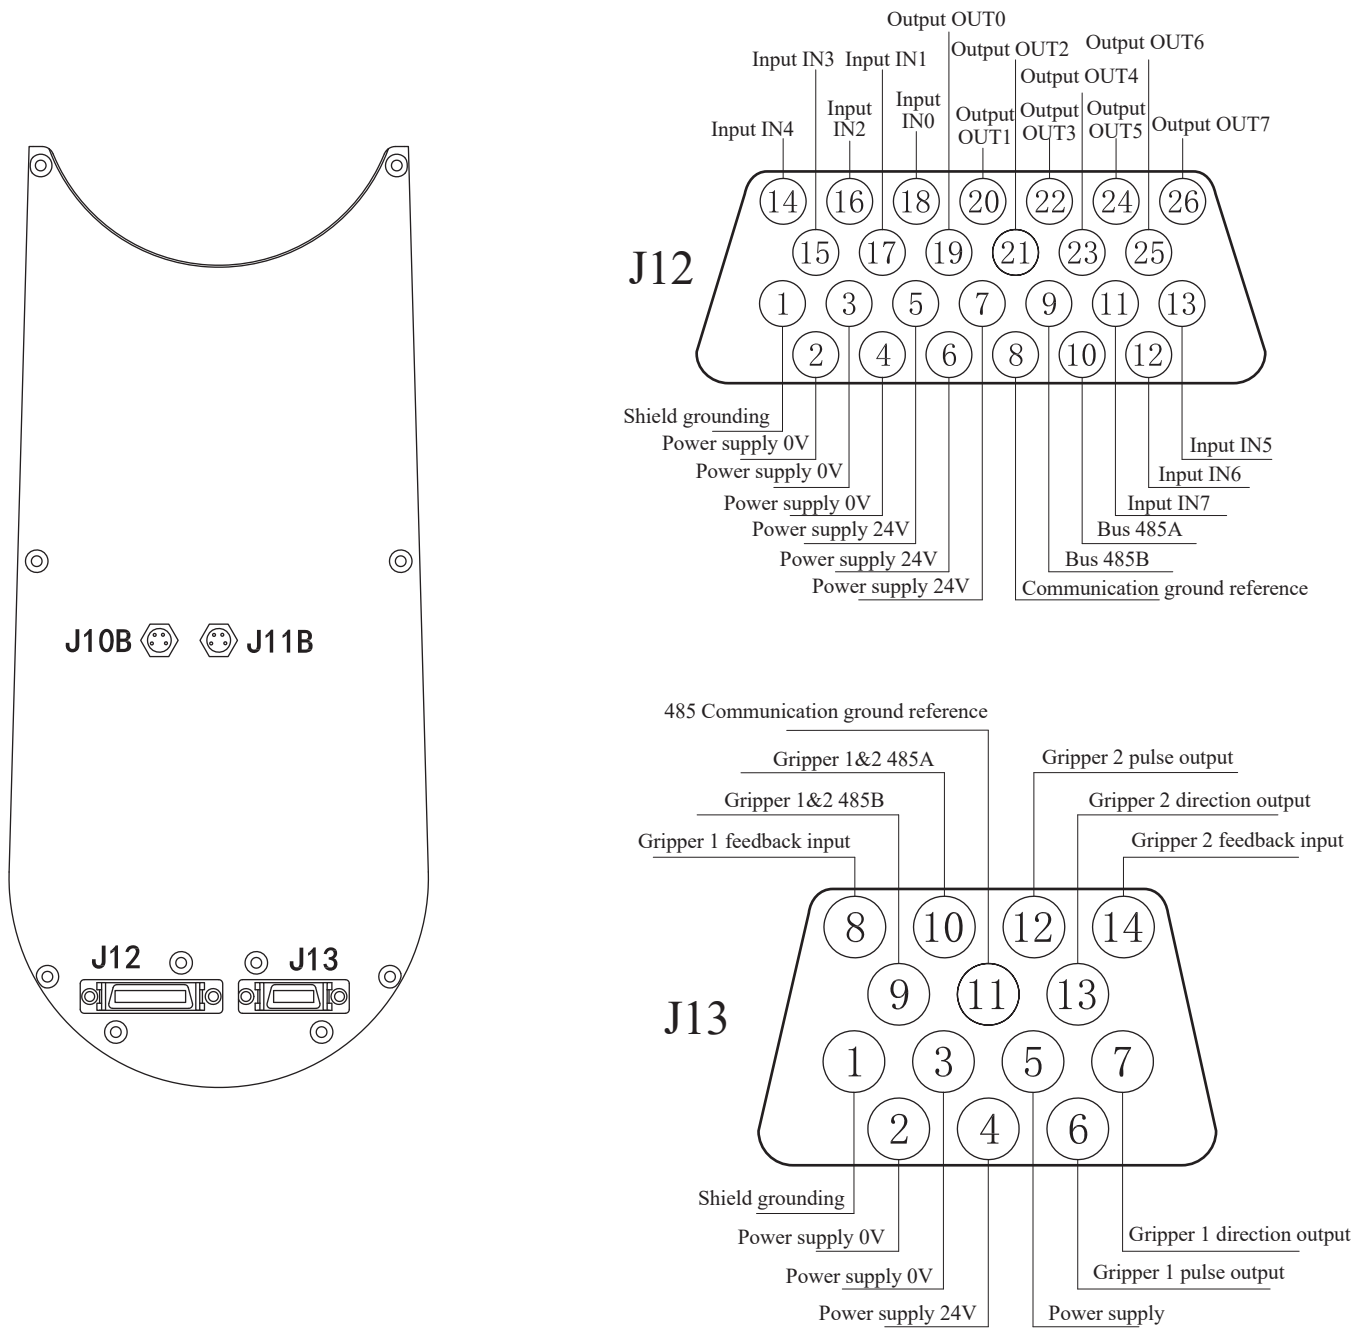

Figure 4
5. General schematic diagram of the I/O interface panel at B (as shown in Figure 4)